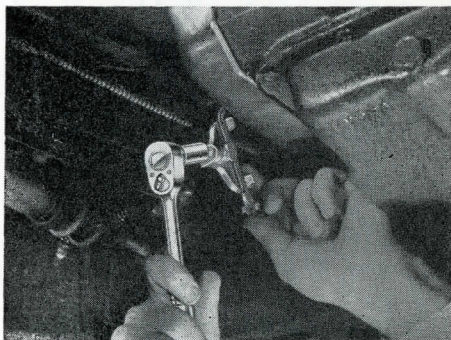

Figure 24
4. If the clevis pin does not pass clearly through the gauge opening then use throttle lever bending tool (AT-51). Bend lever in whichever direction is necessary. Avoid twisting the lever or springing the shaft during bending operation. Fig. 24.